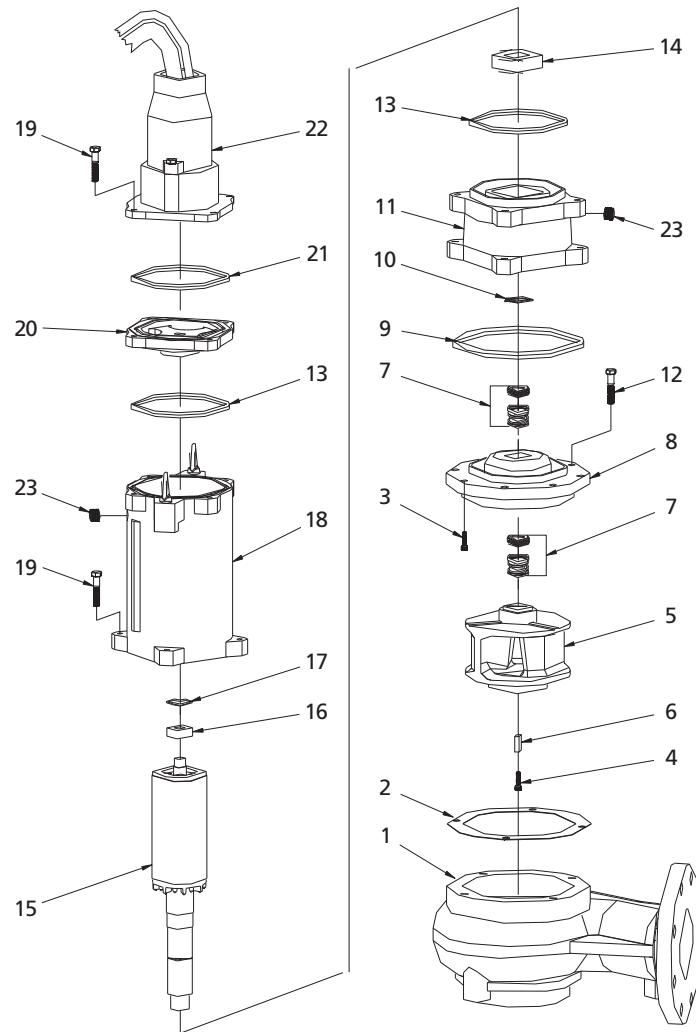

Figure 7- Repair parts for illustration- Models: 12U565 thru 12U576
NOTE: Refer to Figure 7 on page 14 or Figure 8 on page 18 to identify reference numbers during the disassembly and assembly procedures.
2. Lay the unit down on its side. If the lower seal (Ref.No.7) is to be removed, it is recommended that the oil in the seal chamber be drained. This can be done by removing the plug (Ref.No.23 in figure 7, Ref.No.21 in figure 8) which is on the cover (Ref.No.11) and draining the oil into a holding container.
2. Connect ground wire to grounded rod first, which is provided on the end cover (Ref.No.20 in figure 7, Ref.No.18 in figure 8), identified as GED. Ground connection **MUST** be made to this terminal.